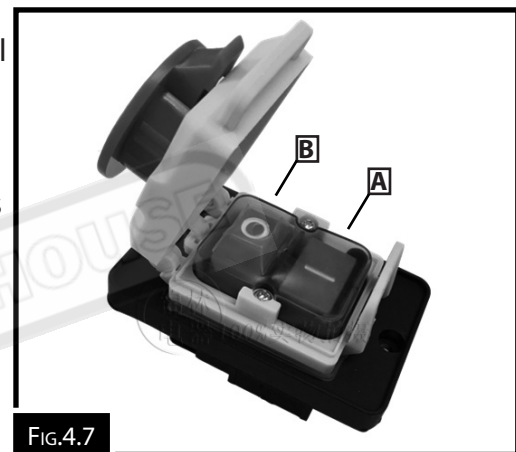

FIG.4.7
Push the bottom green button (A) to turn the machine ON. Push the top red button (B) to turn the machine OFF. (Fig.4.7)